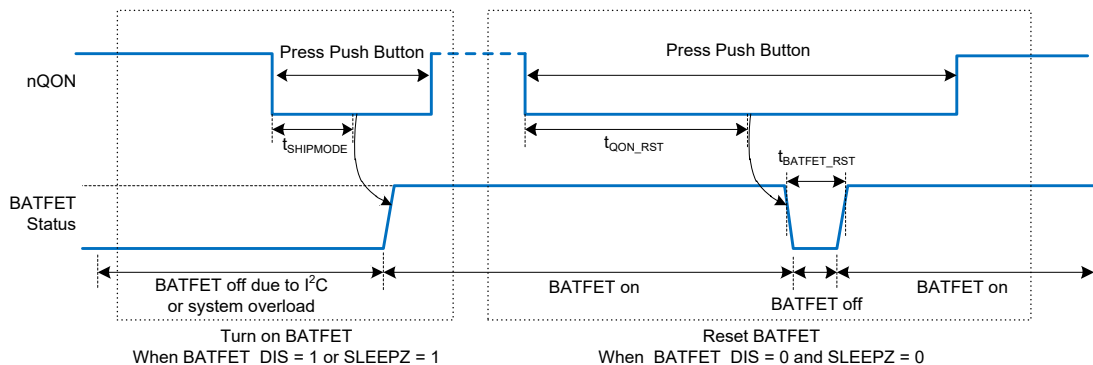

Figure 10. nQON Enable and Reset BATFET Timing
1. Enable BATFET: Applying an nQON logic high to low transition with longer than $t_{SHIPMODE}$ deglitch time (negative pulse) turns on BATFET to exit ship mode (Figure 10 left).
2. Reset BATFET: By applying a logic low for a duration of at least t_{QON_RST} to nQON pin while VBUS is not powered and BATFET is allowed to turn on (BATFET_DIS bit = 0), the BATFET turns off for t_{BATFET_RST} and then it is re-enabled resulting in a system power-on reset. This function can be disabled by clearing BATFET_RST_EN bit (Figure 10 right).